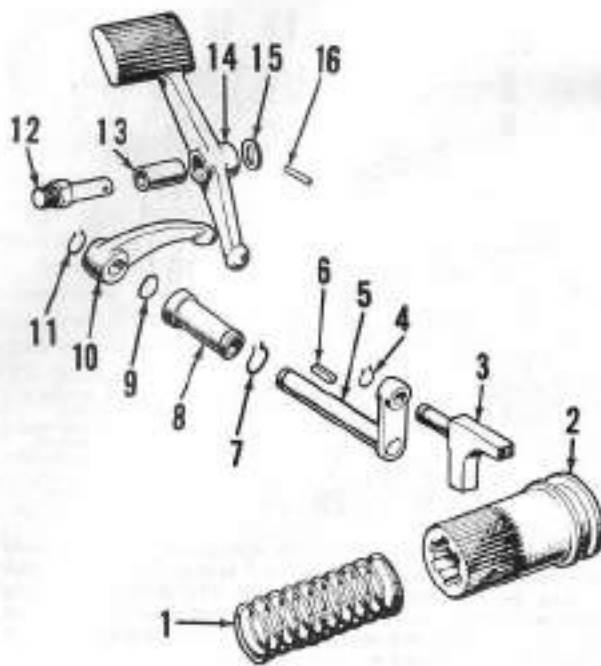

Fig. 116 — Exploded view of differential lock components. Pedal may be retained on pivot pin (12) with snap ring instead of spring pin (16).
All components of the differential lock can be removed after removing the right final drive unit as outlined in paragraph 174 and the axle housing seal retainer as outlined in paragraph 184. Working through opening in right end of axle housing, remove locking sleeve (2—Fig. 116) and spring (1); it may be necessary to manipulate pedal (14) or arm (10) to disengage fork (3) from groove in locking sleeve. Remove snap ring (11), arm (10) and key (6). Push shaft and arm assembly (5) into axle housing and remove out